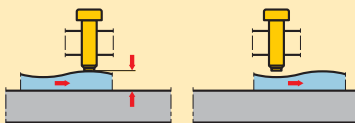

Figure 7
The illustration in Figure 7 (mechanical clamping) demonstrates that tension is relieved as the dimensions of the workpiece in the clamping area change.
- Clamping Bolts (Figure 7)